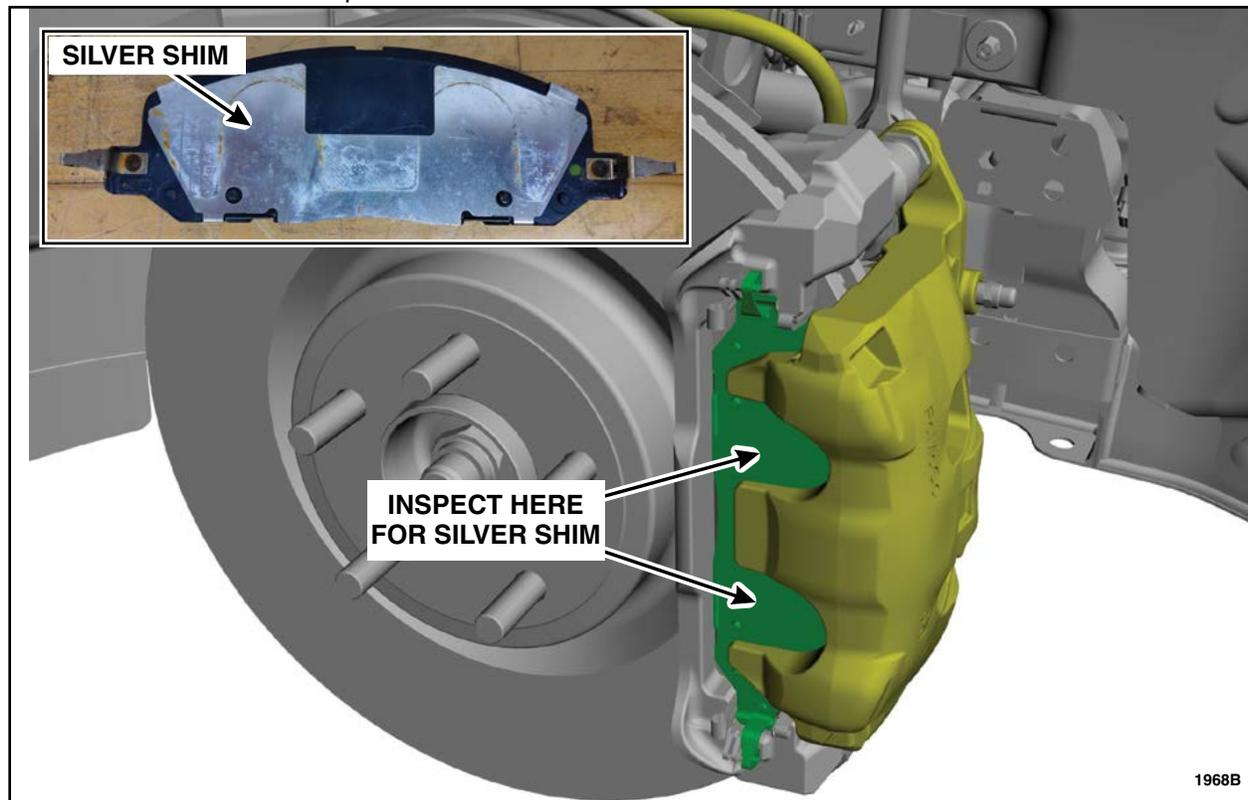

FIGURE 1
2. Looking through the front wheel spokes inspect the front brake pads for a silver shim. Do the front brake pads have a silver shim? See Figure 1.